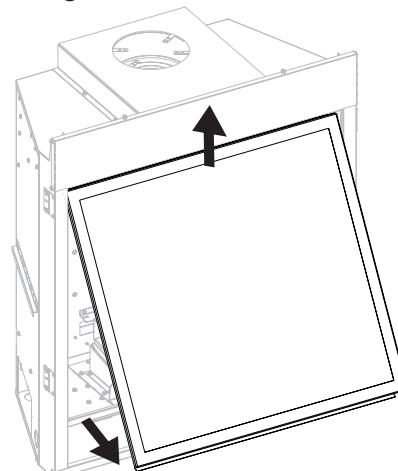

Figure 6
- Disengage Glass Frame by pulling outward in a swinging motion. Place Glass Frame aside in a safe out-of-the-way location. **See Figure 6.**